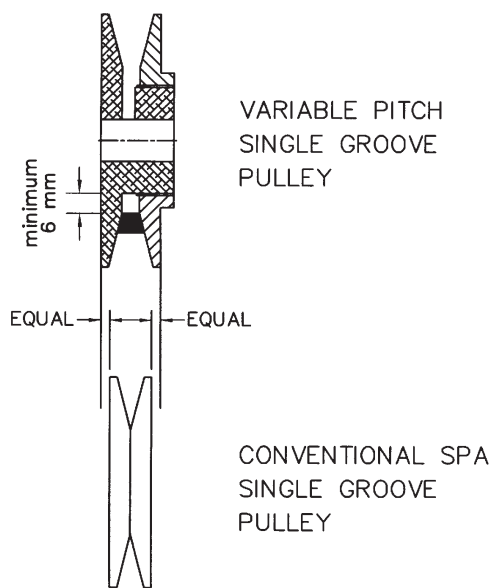

FIG.2
6. Re-align the belts using the pulley faces as a guide, refer note and figure 2 below in troubleshooting guide
Be careful not to slow the fan down too much. Rotating the moveable flange anti-clockwise too far will “bottom” the belt and it will not sit properly in the groove. This will cause rough running and early belt failure. Also the moveable flange will only be held on by a thread or two. A minimum clearance of 6mm is required between the bottom of the cog belt and the bottom of the pulley groove. See figures 2 and 3.
Single and Double groove pulleys should be aligned using the outside faces, noting that the variable pitch pulley faces will most likely be wider than the standard fixed pulley, allowance should be made for this so that the belt/belts, is/are centralised. See figures 2 and 3.